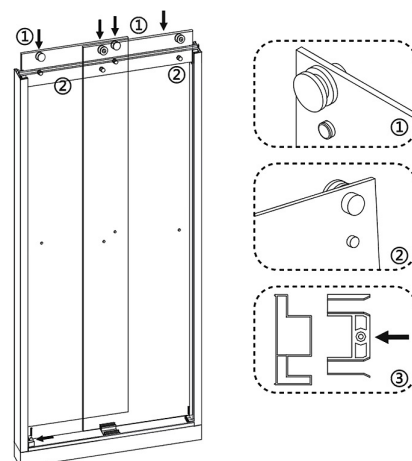

FIGURE 4
(See Figure 4). Install rollers and anti-jumping blocks (1) (2). Install the bottom bumpers on the wall jambs (3).